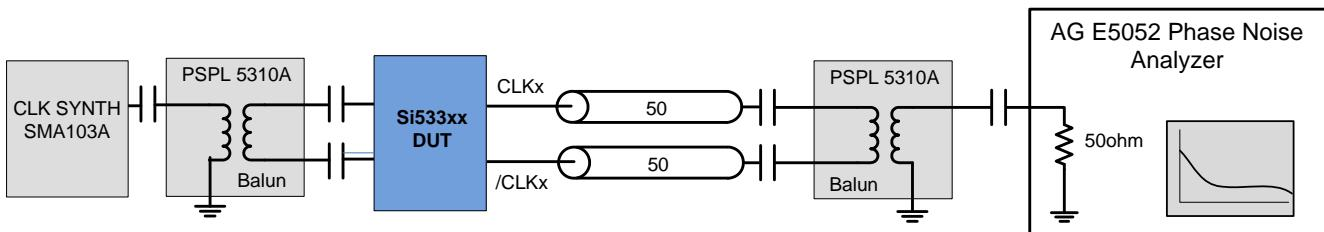

Figure 1. Differential Measurement Method Using a Balun
- 3. Measured differentially using a balun at the phase noise analyzer input. See Figure 1.
3. Measured differentially using a balun at the phase noise analyzer input (see Figure 1).
Total Jitter (Diff'l): Combined source and clock buffer phase noise measured as a differential output to the phase noise analyzer and integrated from 12 kHz to 20 MHz. The differential measurement as shown in each figure is made using a balun. See Figure 1 on page 8.